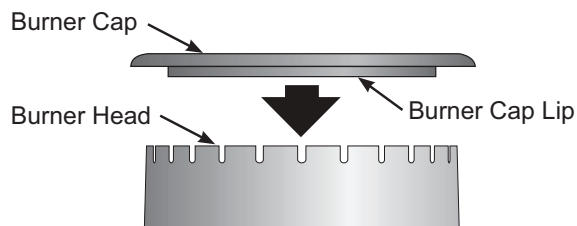

Figure 9: Burner Cap
1. Remove the burner cap from the burner head (see Figure 9). Clean the cap with hot soapy water and dry thoroughly.